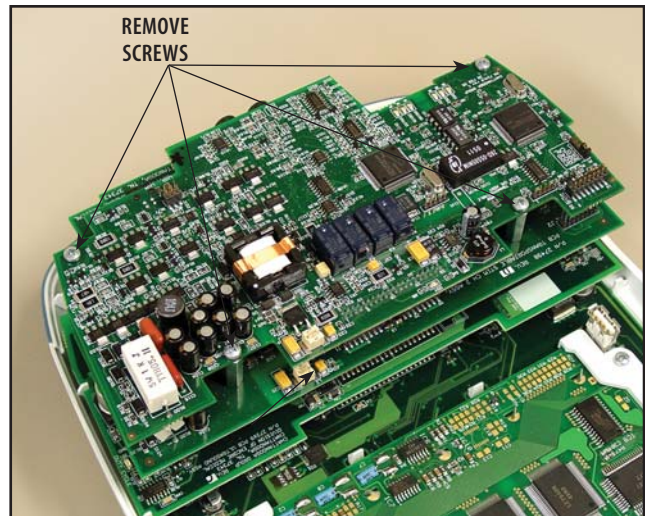

FIGURE 6.10
2. Using the # 1 Phillips Screwdriver, remove the four screws securing Channel 1 Stim Board to the Stand Offs. **See Figure 6.10.**